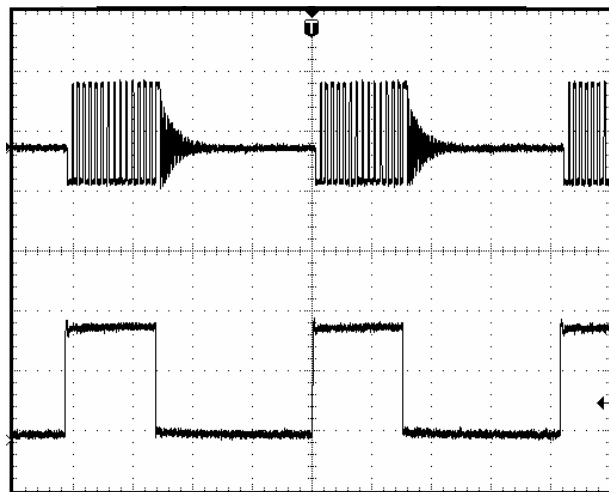

Figure 9. PWM Dimming Pulses
Figure 9 shows the waveforms during PWM dimming pulses. The DRC duty cycle is 75% and therefore the dimming ratio (DR) is 37%. Ch1 is the switch node. Ch2 is the sum of all six ILED channels. Figure 9 shows the boost converter is OFF (not switching) between PWM dimming pulses.
For direct dimming control connect DFS to  $V_{DD}$  and use the MODE pin for the dimming pulse. This method will bypass the internal dimming control and allows for dimming control by the external PWM Dimming pulse (see Figure 9).